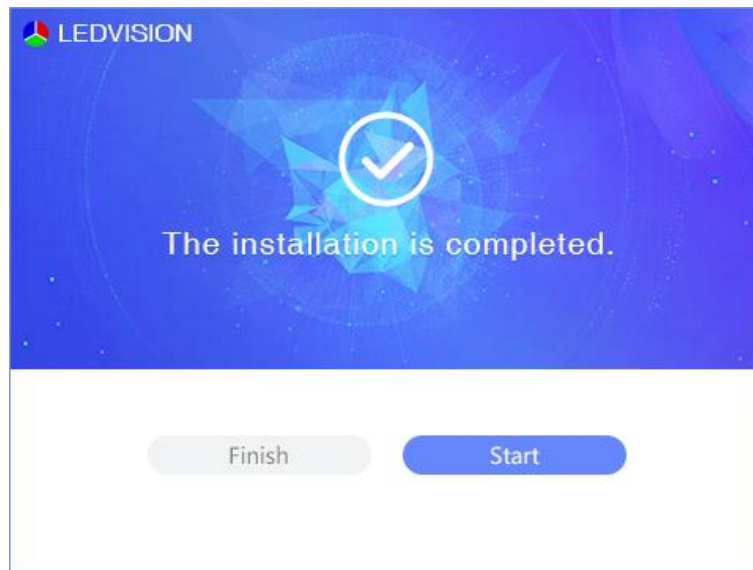

Fig 1.2.3 Installation completion
Step 2: Installation is completed as shown in Fig 1.2.3. After a successful installation, LEDVISION and LEDSetting shortcuts are created on the desktop. LEDVISION is the playback software and LEDSetting is the control software.